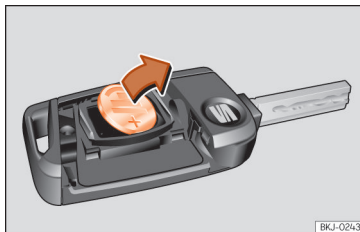

Fig. 134 Vehicle key: removing the battery.
- Extract the battery from the compartment using a suitable thin object » **Fig. 134**.
- Place the new battery in the compartment as shown » **Fig. 134**, pressing in the opposite direction to that shown by the arrow » .